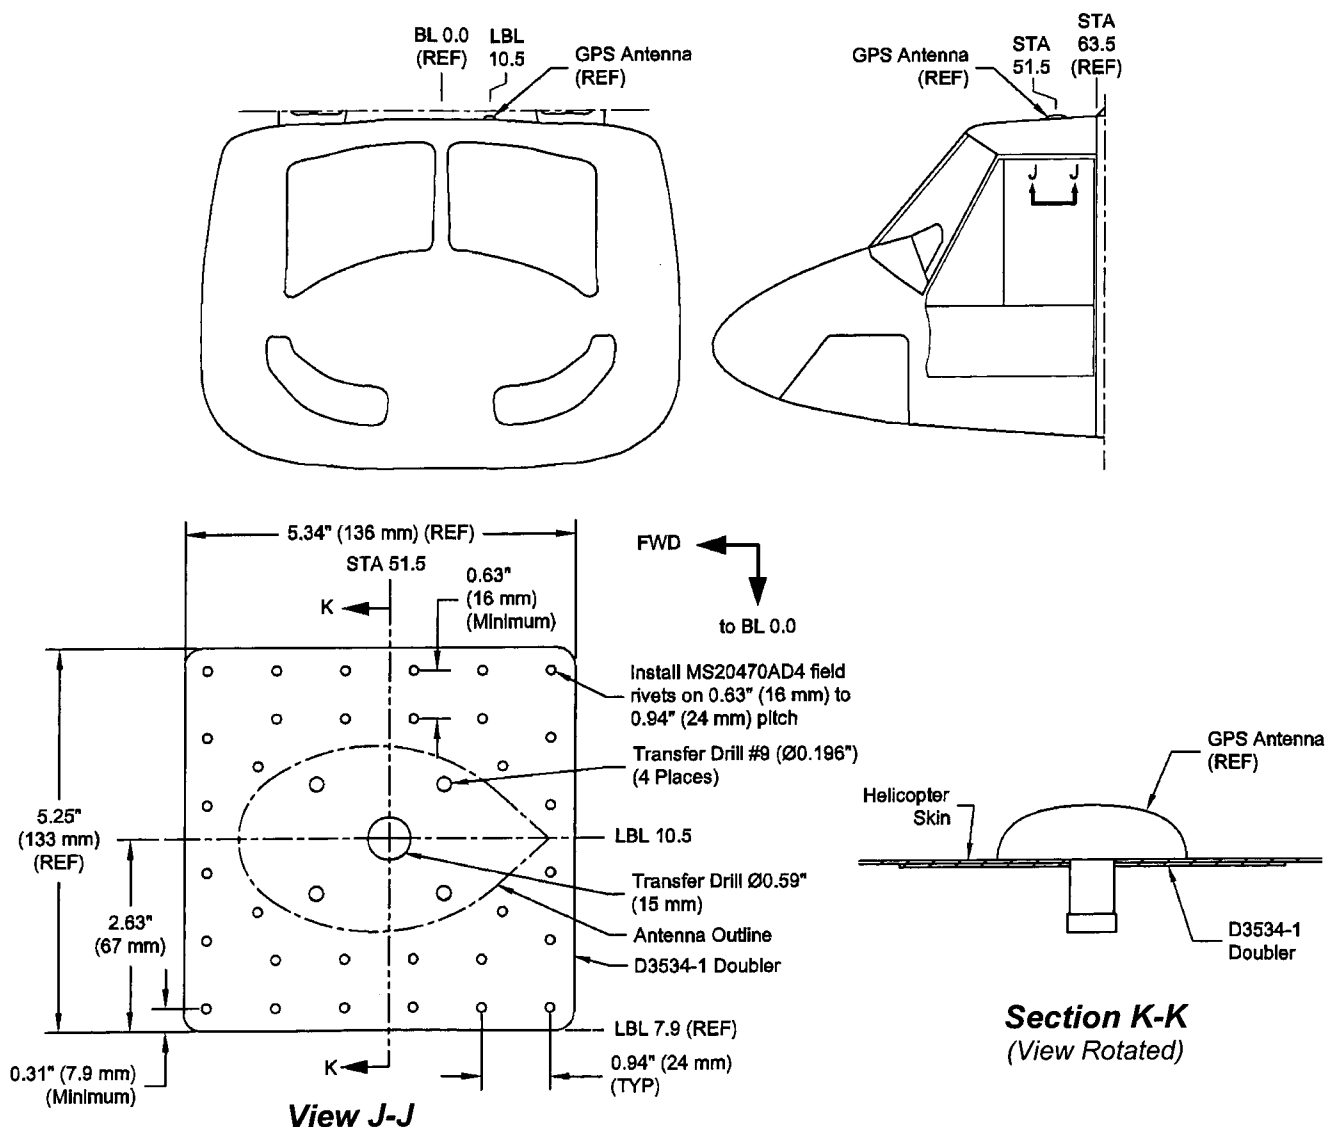

Figure 3.4.1 – D3534-1 Doubler Installation
- 3.4.1 Position the centre of the D3534-1 Doubler at the location shown in **Figure 3.4.1** on the interior roof of the cockpit (Left Butt Line 10.5 and STA Line 51.5). Remove any rivets from the helicopter that will be covered by the doubler. Test fit the GPS antenna (provided with GPS unit; not included in this kit) at the location shown in **Figure 3.4.1** on the exterior roof of the helicopter. Transfer drill qty(1) \varnothing 0.59" and qty(4) #9 (\varnothing 0.196") holes from the antenna through the helicopter skin and the D3534-1 Doubler. Deburr and touch up holes per the Aircraft Maintenance Manual.
- 3.4.3 Drill #30 ($\varnothing 0.129$ ") rivet holes on a minimum 0.63" (16 mm) to maximum 0.94" (24 mm) pitch as shown in **Figure 3.4.1**. Deburr and touch up the holes per the Aircraft Maintenance Manual. Install MS20470AD4 field rivets (not included in this kit) in each hole.
- 3.4.4 Install the GPS antenna onto the D3534-1 Doubler at the location outlined in **Figure 3.4.1**, using the hardware supplied with the GPS antenna. Torque the nuts to 12-15 in-lbs (1.4-1.7 N-m).